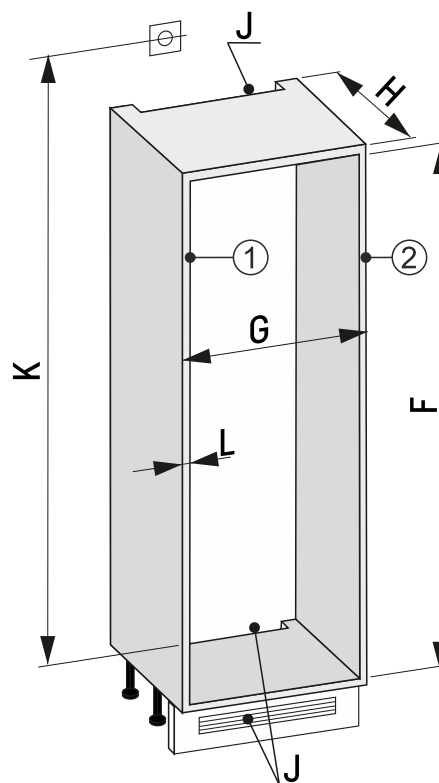

Fig. 88 30" niche
- Measure the thickness of the wall unit Fig. 88 (L).